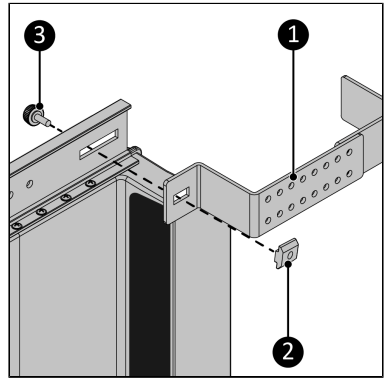

Figure 80.
- Screw the bracket (Figure 80, pos. 1) to the main rail in the front position using the knob screw (Figure 80, pos. 3). Make sure you connect the knob screw to the slide nut (Figure 80, pos. 2).